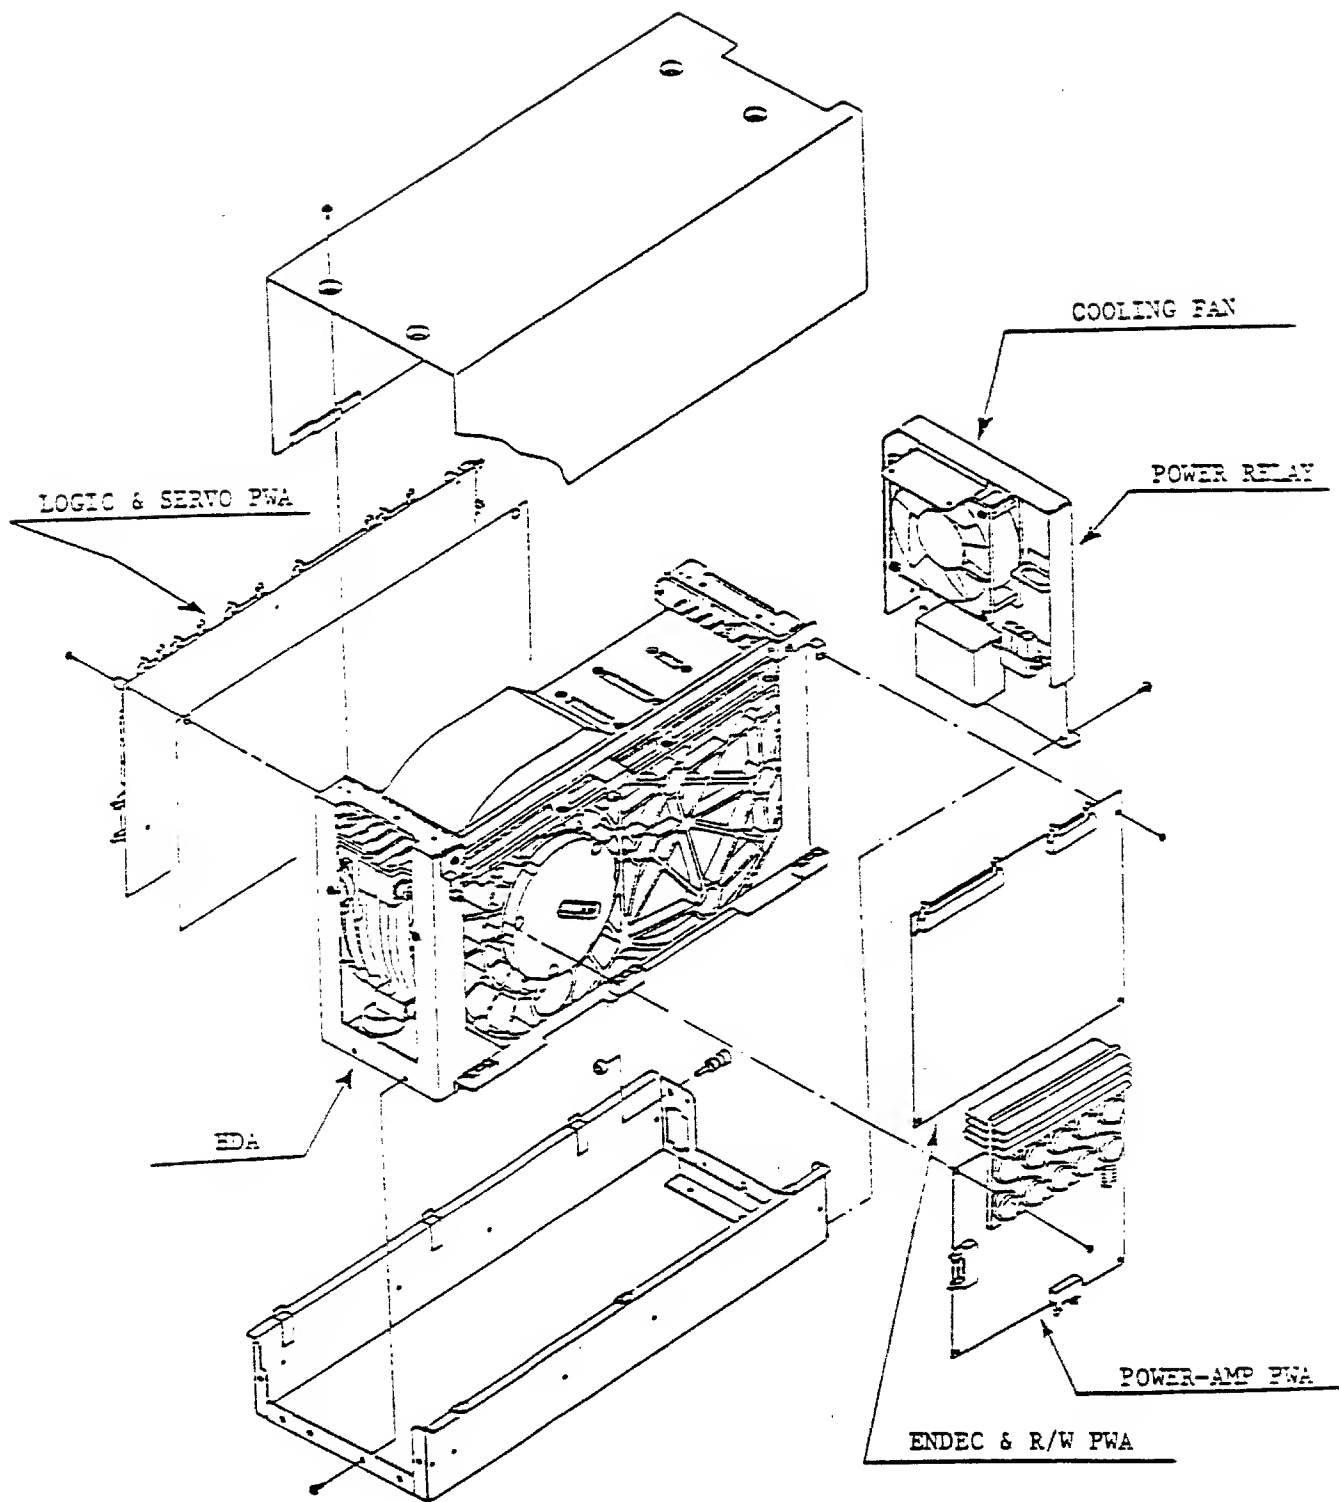

Figure 1-2 Major Components of the Basic Unit
- The main components of the D2362 Disk Drive are shown in Figure 1-2 and in Table 1-2.